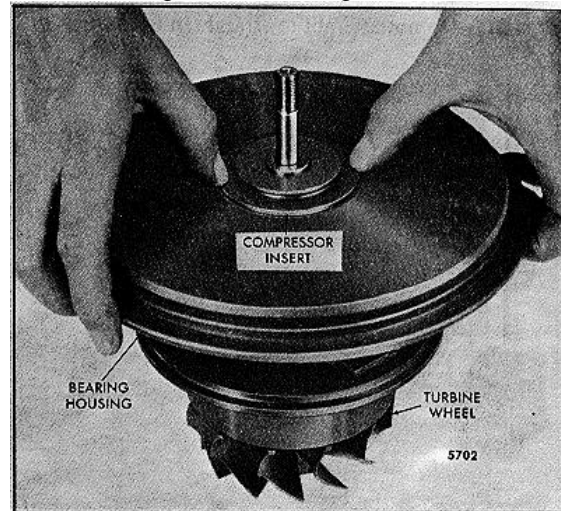

FIG. 15 - Installing Compressor Insert in Bearing Housing
21. Install the compressor insert assembly in the cavity of the bearing housing as shown in Fig. 15.